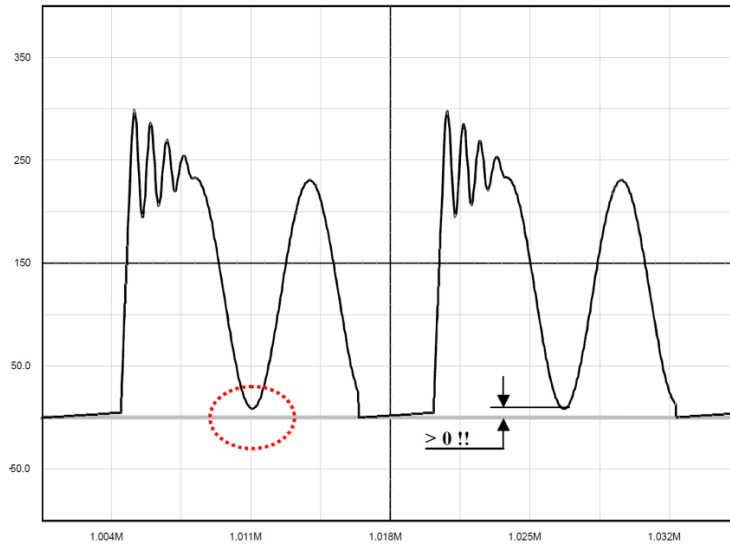

Figure 51. The Drain-Source Wave Shall Always be Positive
1. The lateral MOSFET body-diode shall never be forward biased, either during start-up (because of a large leakage inductance) or in normal operation, depicted by Figure 51. This condition sets the
and defines the amount of ripple we want in CCM, depicted by Figure 51.
Figure 53a: the simple capacitor limits the voltage according to the lateral MOSFET body–diode shall never be forward biased, either during start-up (because of a large leakage inductance) or in normal operation as shown by Figure 51. This condition sets the maximum voltage that can be reflected during t_F . As a result, the flyback voltage which is reflected on the drain at the switch opening cannot be larger than the input voltage. When selecting components, you must adopt a turn ratio which adheres to the following Equation 6. This option is only valid for low power applications, e.g. below 5 W, otherwise chances exist to destroy the MOSFET. After evaluating the leakage inductance, you can compute C with (Equation 7). Typical values are between 100 pF and up to 470 pF. Large capacitors increase capacitive losses...